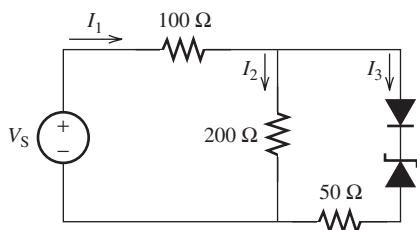

FIGURE P8.25 Circuit for Problem 8.25.
- 8.25** (H) Given that the Zener voltage is 5.3 V for the circuit shown in Figure P8.25, find I_1 and I_2 if the input voltage is: